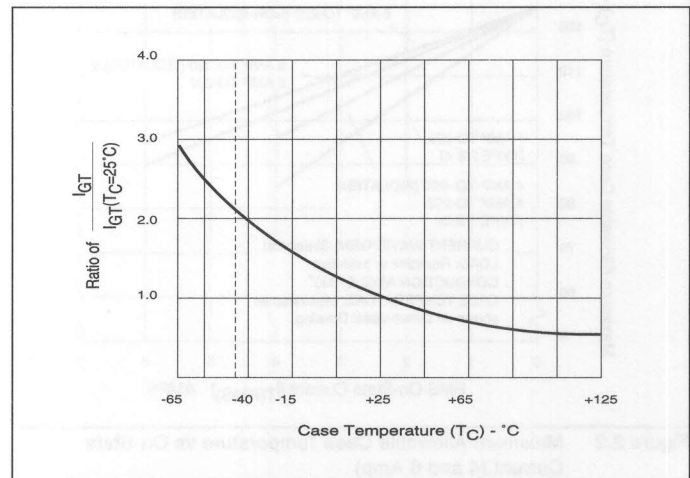

Figure 2.11 Normalized DC Gate Trigger Current for All Quadrants vs Case Temperature
- See Figure 2.11 for I_{GT} vs T_C .